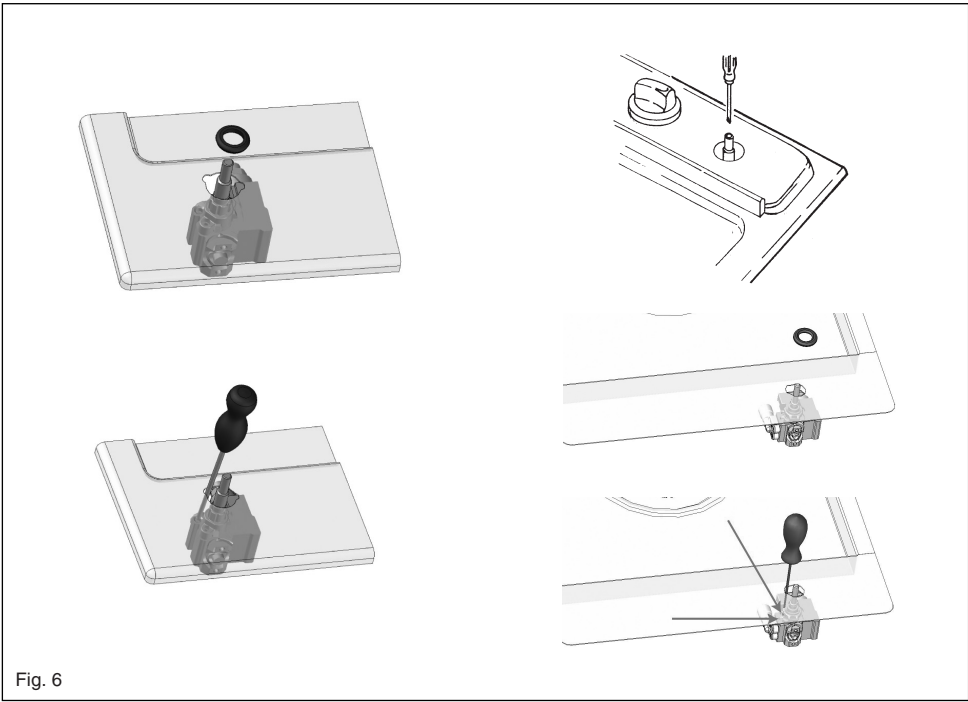

Fig. 6
- to adjust to the minimum, use a screwdriver on the screw placed on the tap (Fig. 6) after turning the tap to its minimum position. For LPG (butane/propane) screw tight.